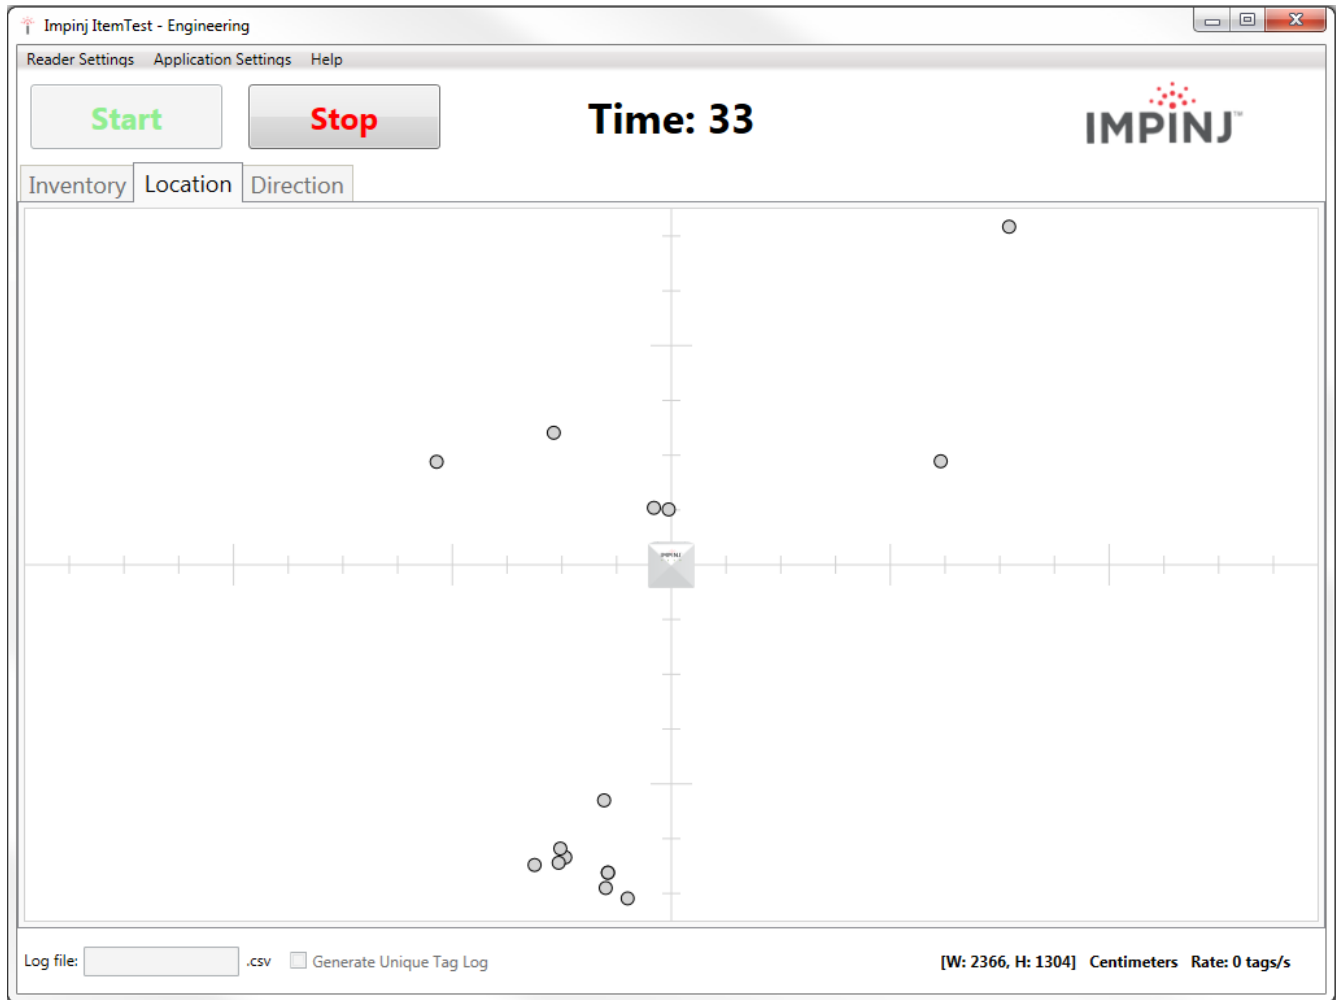

Figure 6.8 Location Results
4. Using tag reads from each of the 52 beams, xArray calculates the location of the tags and reports in X and Y coordinates. The ItemTest Location page displays these results, as shown in Figure 6.8.